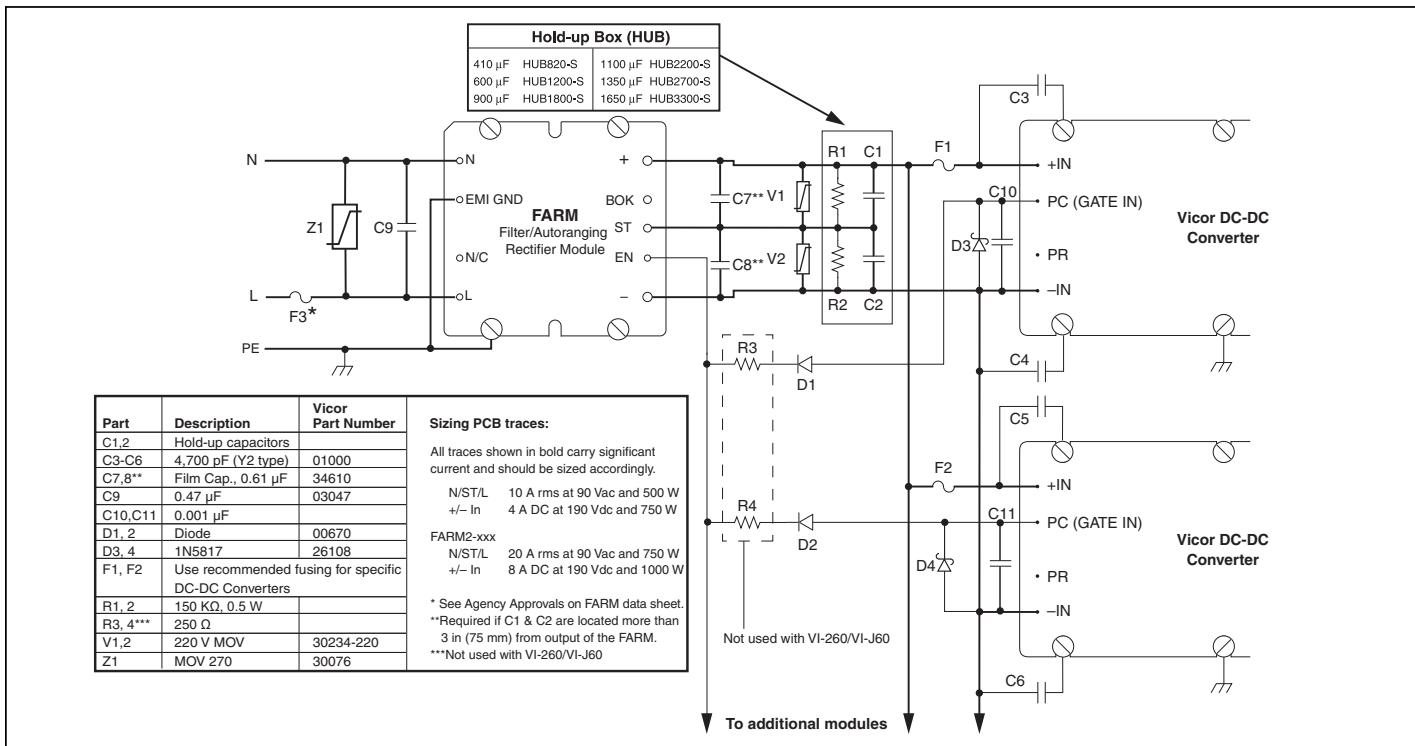

Figure 9 — Offline Power Supply Configuration
**Strap (ST) Pin.** In addition to input and output power pin connections, it is necessary to connect the Strap pin to the center junction of the series hold-up capacitors ( $C1, C2$ , see Fig. 9) for proper (autoranging) operation. Metal oxide varistors, V1 and V2 provide capacitor protection. The bleeder resistors ( $R1, R2$ , see Fig. 9) discharge the hold-up capacitors when power is switched off. Capacitors  $C7$  and  $C8$  are recommended if the hold-up capacitors are located more than 3 inches (75 mm) from the FARM output pins.
It should be noted that the series combination ( $C_1, C_2$ , see Fig. 9) requires each capacitor to be twice the calculated value, but the required voltage rating of each capacitor is reduced to 200 V. Allowable ripple voltage on the bus (or ripple current in the capacitors) may define the capacitance requirement. Consideration should be given to converter ripple rejection and resulting output ripple voltage.